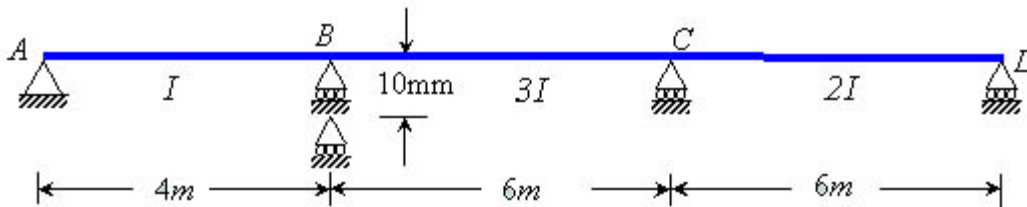

Figure 5.29(a) Given Beam
**Example 5.25** Analyze the continuous beam show in Fig. 5.29(a) by the three moment equation method if support  $B$  sinks by an amount of 10 mm. Draw the shear force and bending moment diagram. Take flexural rigidity  $EI = 48000 \text{ kNm}^2$ .